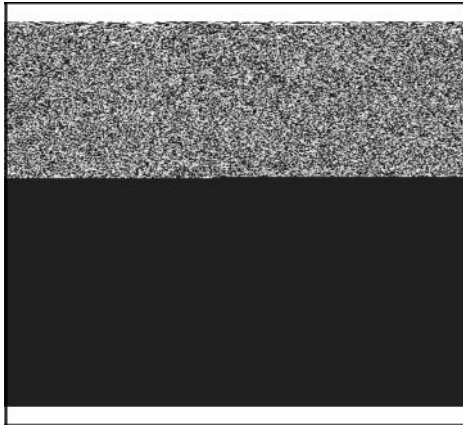

Figure 17
2. Remove oil vent plug (C, Figure 17) and set aside.
3. Loosen four cap screws (D) that secure the gear case cover assembly. Pull cover (A) away from gear case (B) and allow oil to drain into pan.